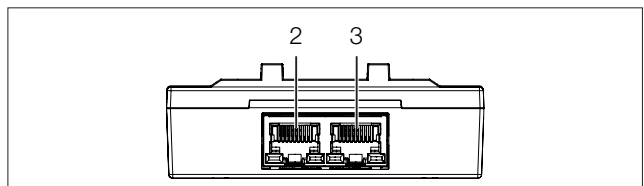

Fig. 12: Rear of the temperature/humidity sensor
- Use a CAN bus connection cable to connect the temperature/humidity sensor to a CAN bus interface on the Rittal embedded device or the neighbouring component on the CAN bus (fig. 12, item 2, 3).
■ If necessary, connect another component (e.g. another sensor type) to the second, free CAN bus interface of the temperature/humidity sensor (fig. 12, item 2, 3).